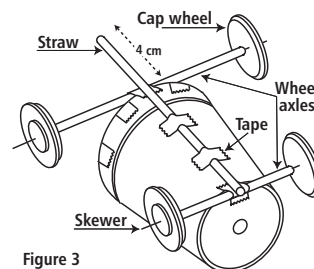

Figure 3
7. Tape a straw to the bottom of the cup, perpendicular to the other two straws so that it extends about 4 cm beyond the wheel axle. See figure 3.